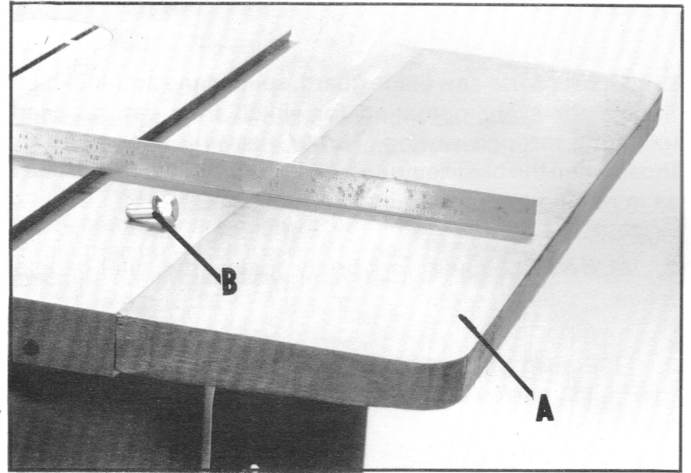

Fig. 3
Assemble the extension wing (A) Fig. 3, to the saw table, using the three screws and washers (B). Use a straight edge to make sure the extension wing is level with the table before tightening the three screws. Assemble the other extension wing to the opposite end of the table in the same manner.